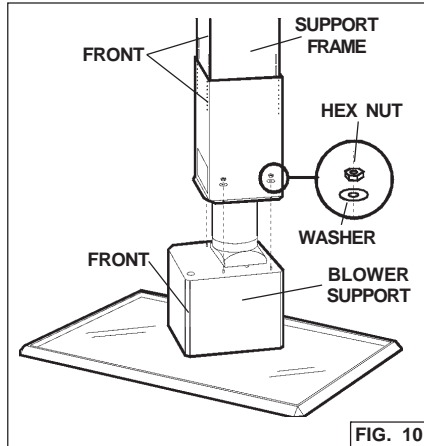

FIG. 10
3. Attach Support Frame to the Blower Support and secure with (4) washers and hex nuts. **Make sure the edges marked "FRONT" align.** Fig. 10.